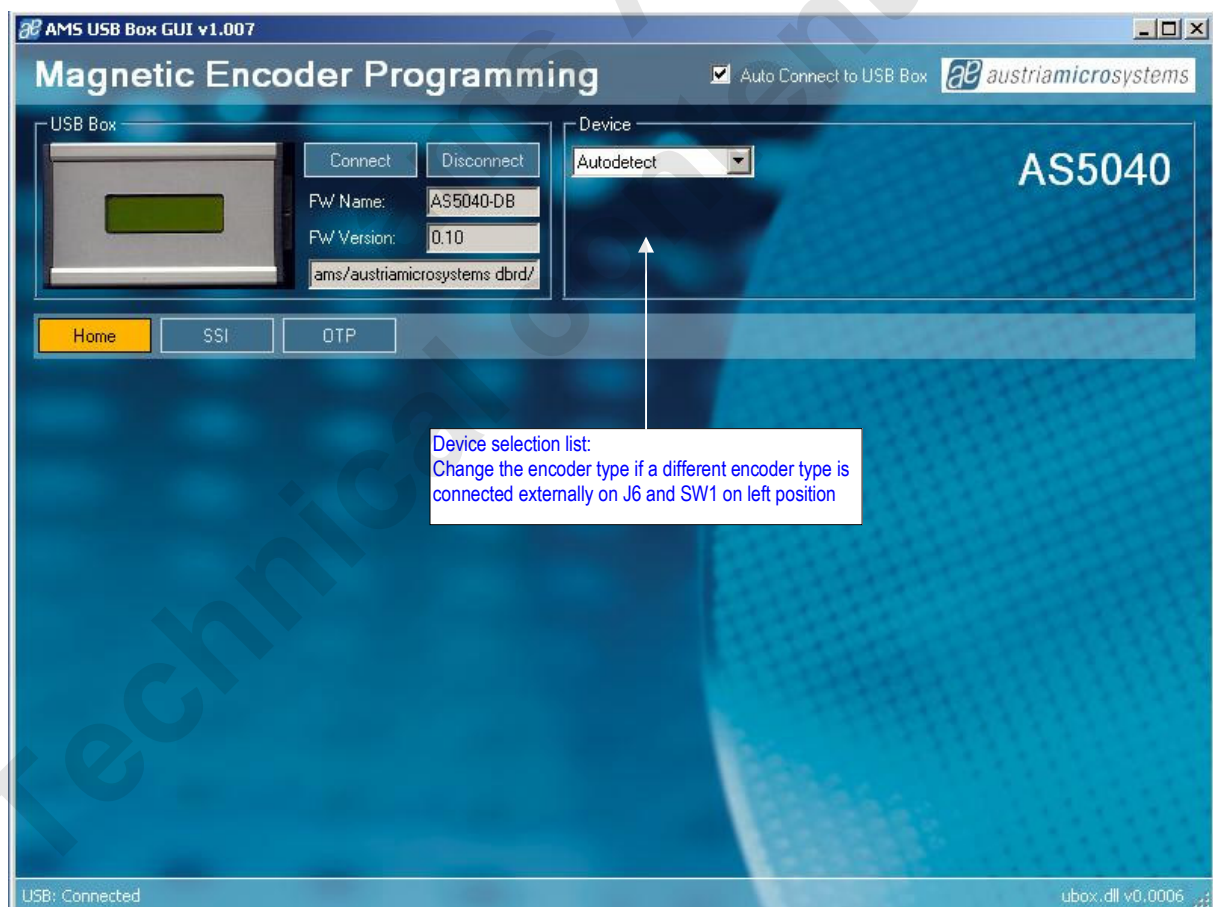

Figure 4: AS5000 GUI detected the AS5040 Demoboard
- If the GUI is used for operation, additional devices AS5043, AS5143, AS5045 and AS5145 can be connected to J6 and evaluated. In that case, the correct encoder must be selected instead of "Autoselect" in the Device list of the PC software, see chapter **Error! Reference source not found.** figure 4.
Figure 4 shows the main window of the GUI. On the top left corner, board information's as firmware (FW) version and demoboard name declaration can be found.